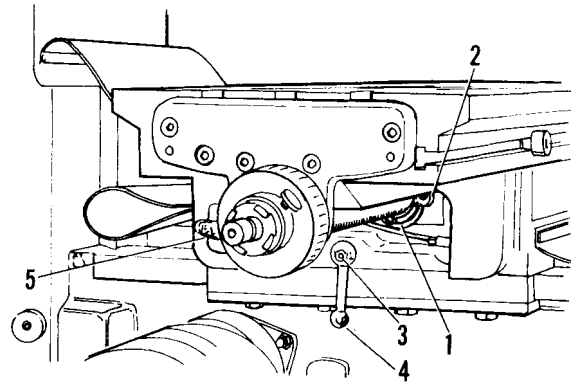

Figure 11. Adjusting Anti-Backlash Nut
31. ANTI-BACKLASH NUT (figure 11)